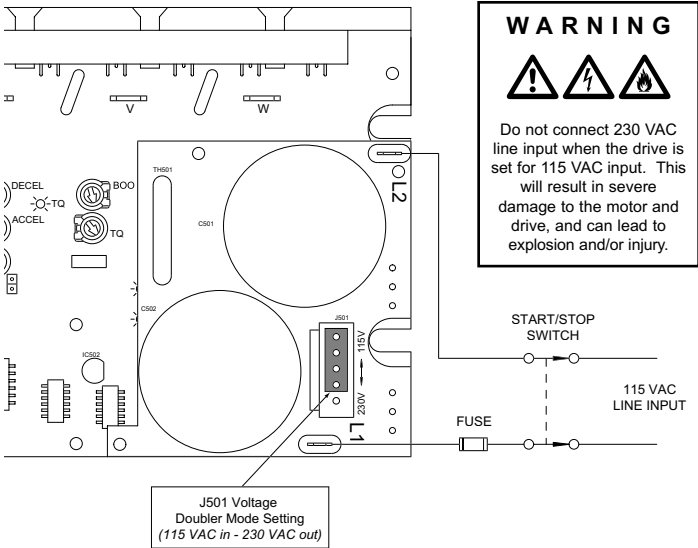

Figure 3. AC Line and Fuse Connections (Voltage Doubler Mode)
Connect AC power input to L1 and L2 as shown in Figure 3 and 4 (pages 11 & 12), depending on your power needs.
- If the input voltage is **115 VAC** and the desired output voltage is 230 VAC (voltage doubler mode), set 115V/230V jumper as shown in Figure 3 (page 11). A line fuse may be added to L2.
Refer to Figure 3 (page 11) for connection information. Use extreme caution when connecting this feature. Incorrect use of this feature may result in fire and serious injury.